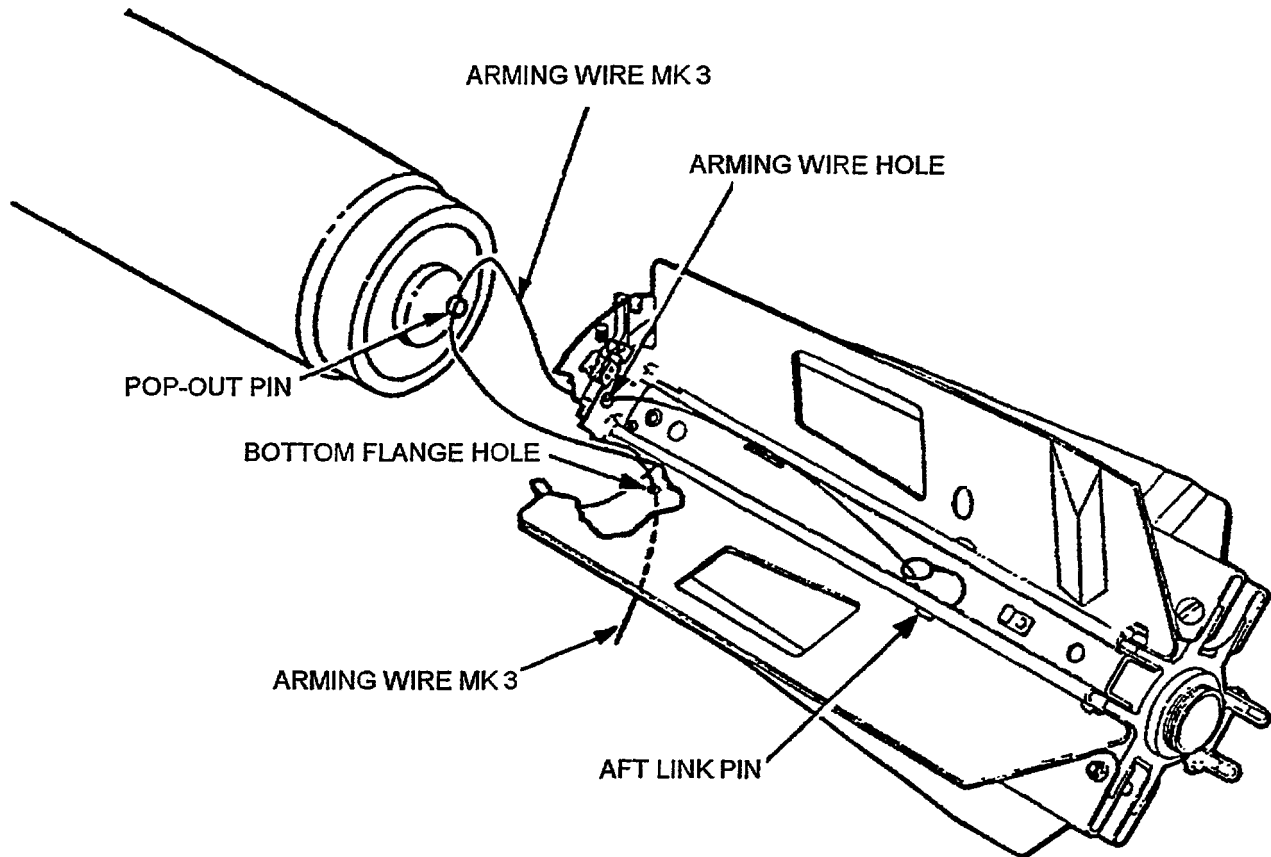

Figure 4-10B. Fin BSU-86/B or BSU-86A/B Arming Wire Mk 3 Rigging
- Run free end of arming wire from aft to forward under aft link pin, along spring arming wire assembly (Figure 4-10B). Pass free end through arming wire swivel; then pass free end of wire through arming wire hole of fin.
- d. Referring to Figure 4-10B, thread free end of arming wire through pop-out pin and small hole in bottom of fin flange. Pull slack wire below bottom of fin. Ensure arming wire is not kinked or jammed.